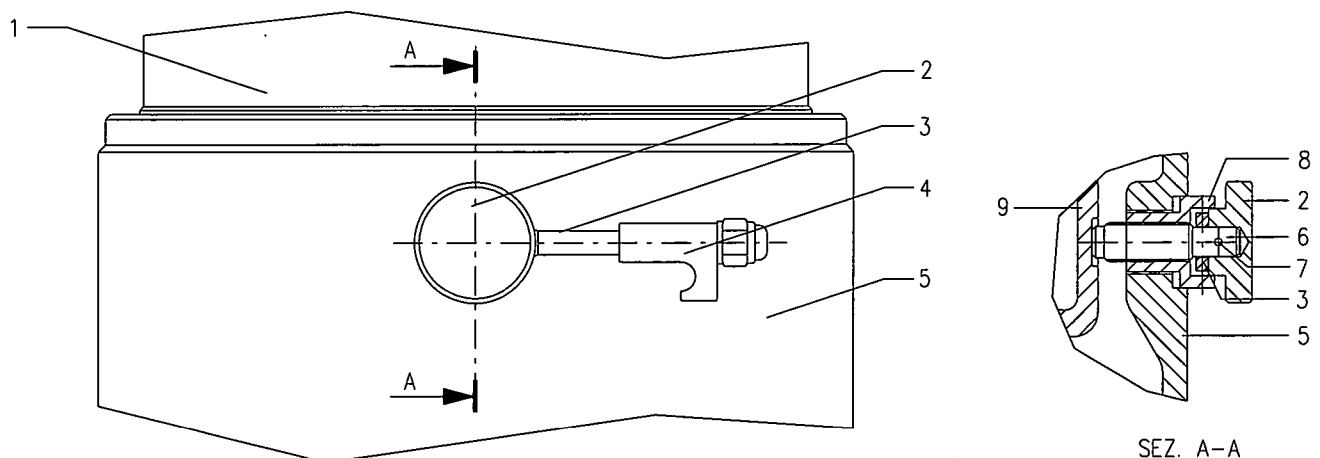

Figure 6.3
- 2) Screw the locking pins to prevent bowl rotation (fig. 6.3).